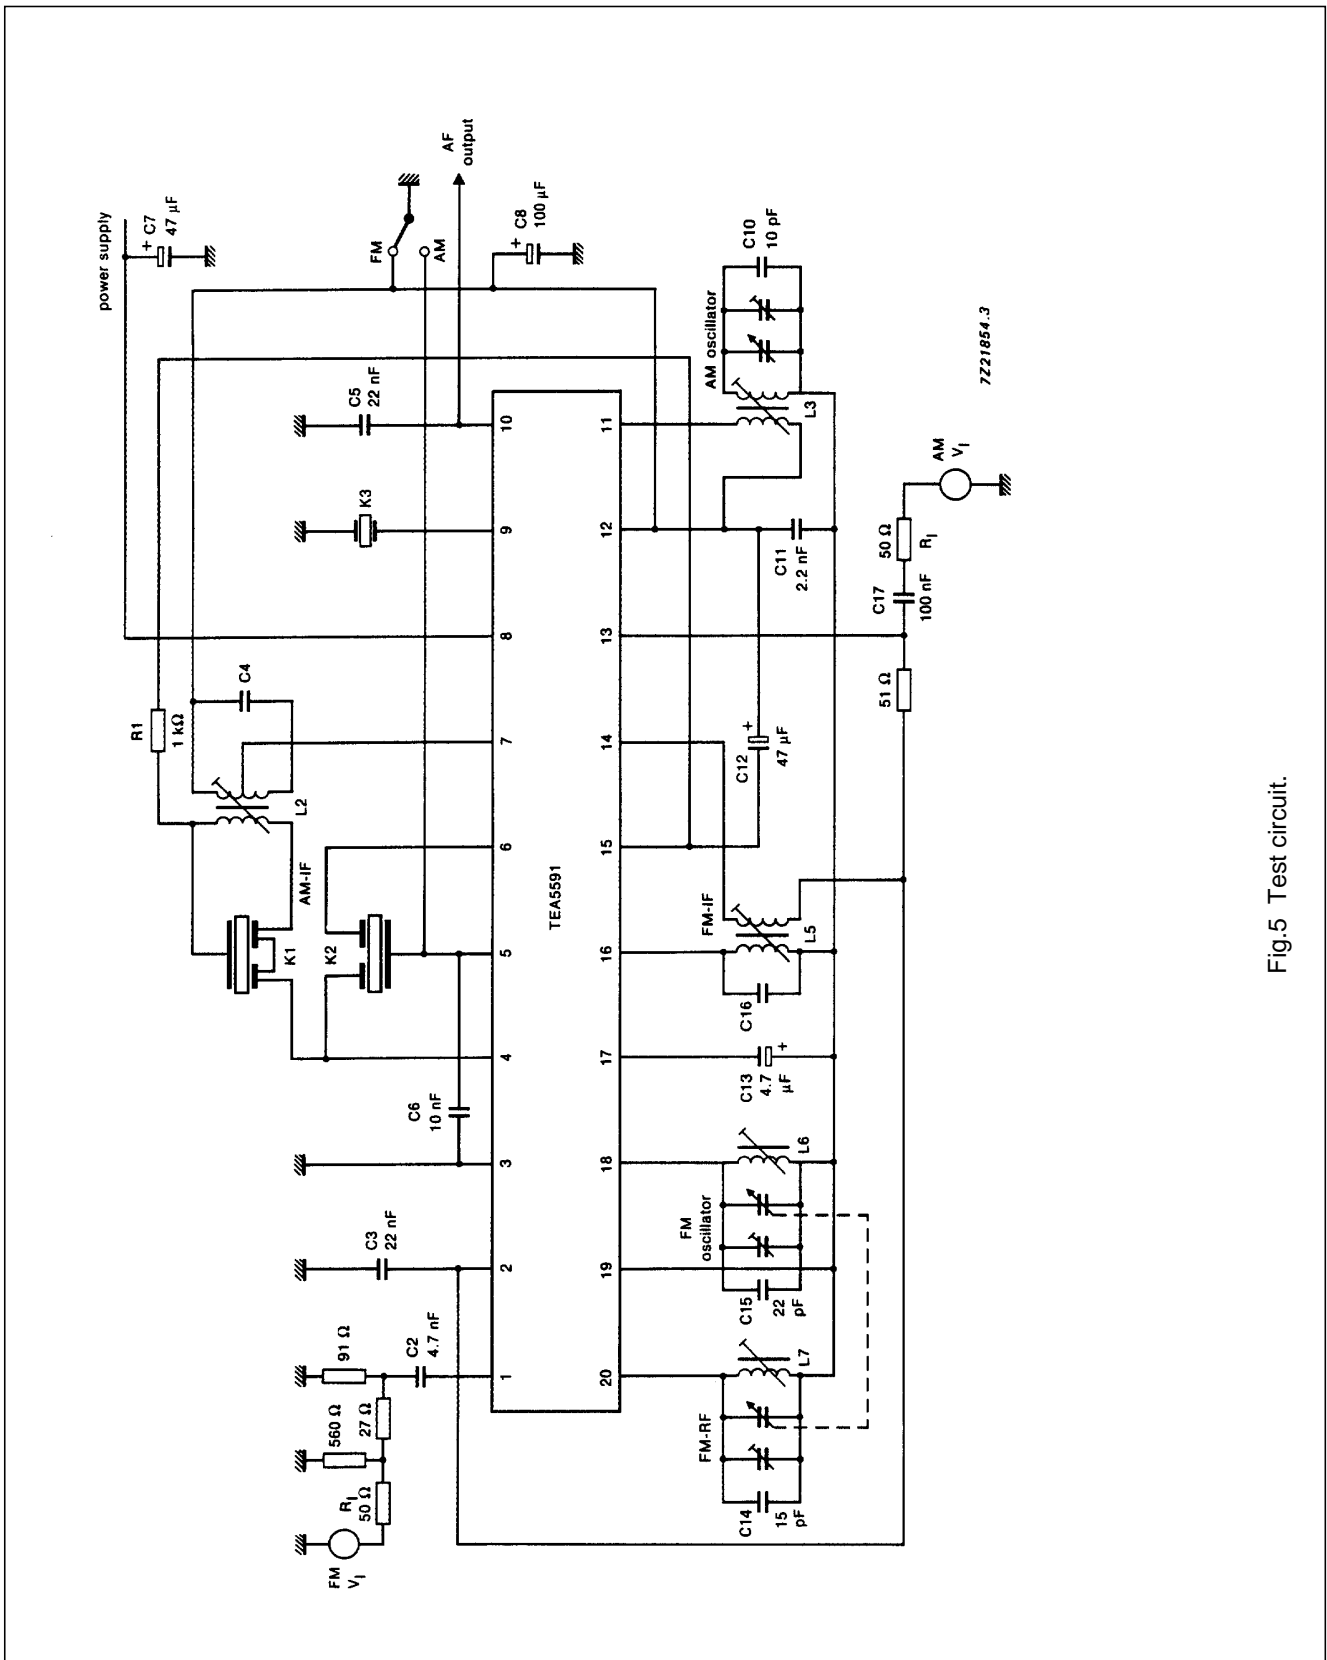

Fig.5 Test circuit.
All parameters are measured in Fig.5 at nominal supply voltage $V_P = 3\text{ V}$; $T_{amb} = 25\text{ °C}$ unless otherwise specified.
All parameters are measured in Fig.5 at nominal supply voltage $V_P = 3\text{ V}$; $T_{amb} = 25\text{ °C}$ unless otherwise specified
Fig.17 Signal and noise (V_{oAF}), noise (V_{oN}); reference level 0 dB = 100 mV, and total harmonic distortion (THD) as a function of input voltage (V_i) at pin 13. Measured in test circuit Fig.5. AM AGC is measured at f_i = MHz; f_{mod} = 1 kHz; m = 0.3. AM distortion is measured at f_i = 1 MHz; f_{mod} = 1 kHz.
Fig.18 Signal and noise (V_{oAF}), noise (V_{oN}); reference level 0 dB = 100 mV; AM suppression (AMS) and total harmonic distortion (THD) as a function of input voltage (V) at pin 1. Measured in test circuit Fig.5 at f_i = 98 MHz; f_{mod} = 1 kHz; Δf 22.5 kHz. AM suppression is measured at f_{mod} = 400 Hz, m= 0.3 for AM; f_{mod} = 1 kHz, Δf = 75 kHz for FM.